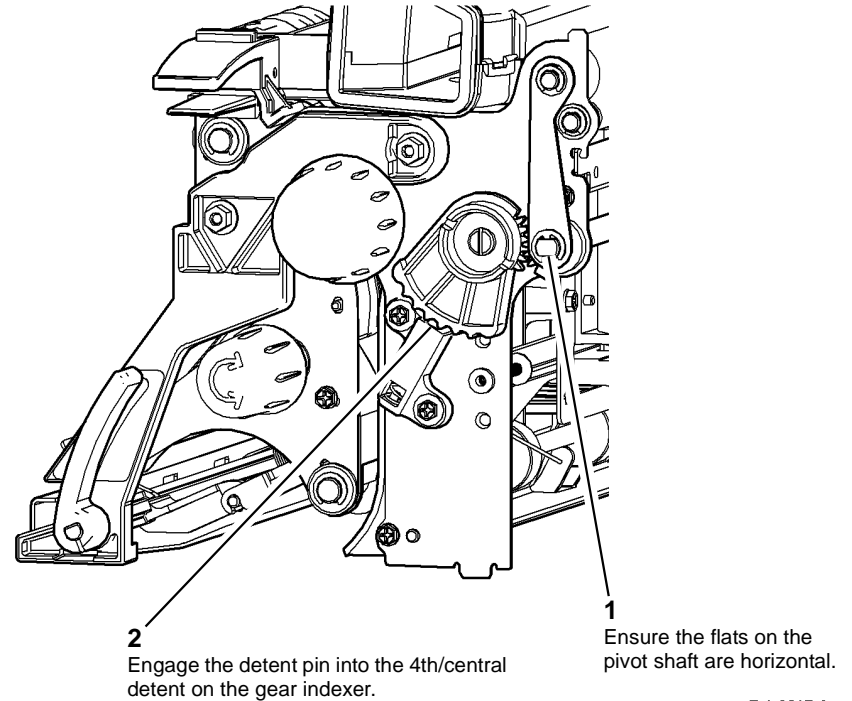

Figure 8 Initial setup of the gear indexer
- (W/TAG 046, W/TAG 047 or W/TAG 148). Ensure the gear indexer is set to the neutral position, Figure 8.